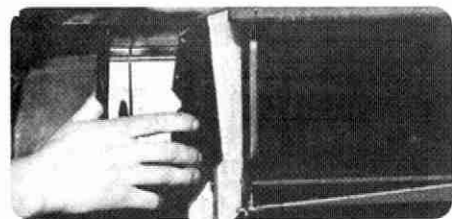

Figure 6
7. Gently pry the front of the center support panel to the left, and the rear of the panel to the right. This will cause the panel to come free and the "recirc" and temperature control doors to drop out of their supporting holes in the center support panel (Figure 6).